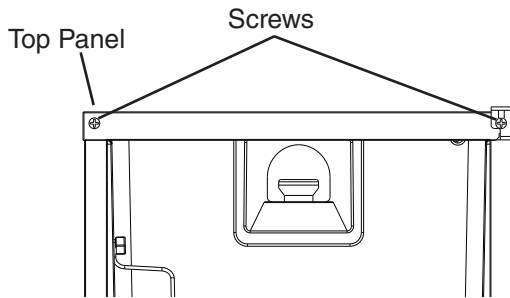

Fig. 11
- a) Contact Hoshizaki Technical Support at 1-800-233-1940 to obtain Hoshizaki Kit HS-0229. The kit contains "hinge (A)-left."
- b) Remove the 2 screws securing the top panel, then lift it off. See Fig. 11.